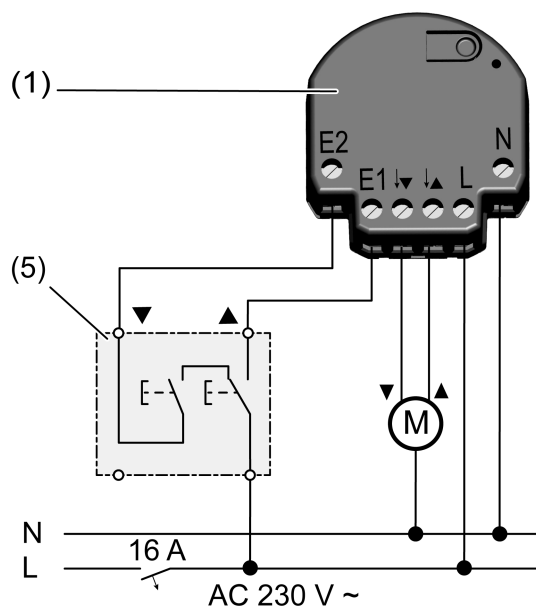
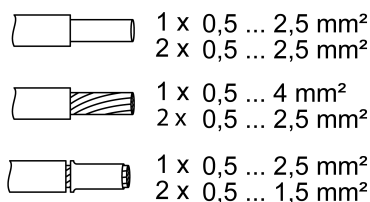

Figure 2: Connection diagram
Figure 3: Clampable conductor cross-section
- Make the connection according to the connection diagram (Figure 2). In doing so, note the clampable conductor cross-section (Figure 3).